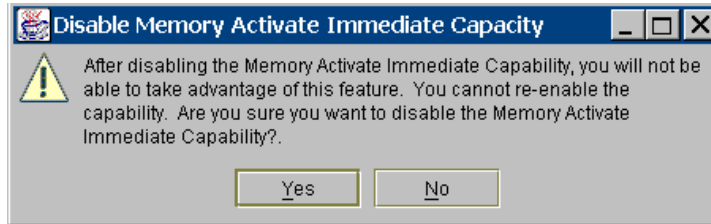

Figure 4-11 Warning message to Disable Processor Trial CoD Capacity
6. If the customer decides to stop using the resources, he or she will need to disable the Trial CoD function to return the resources back to the system. On the HMC, select Capacity Upgrade on Demand -> **Processor** -> **Processor Disable Activate Immediate** for processors, or select Capacity Upgrade on Demand -> **Memory** -> **Memory Disable Activate Immediate** for memory, and a warning message will appear as shown in Figure 4-11.